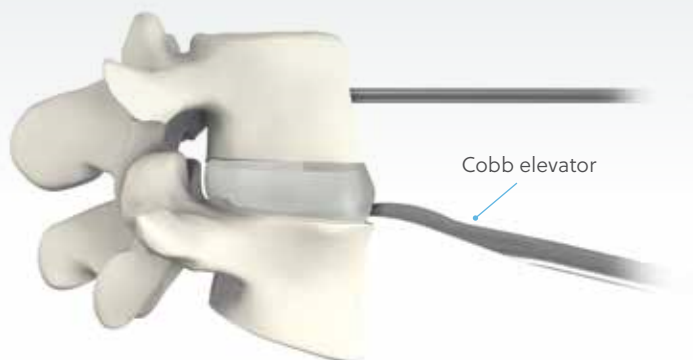

Figure 4
- Use the Cobb elevator to release the disc from the superior and inferior endplates (**Figure 4**).